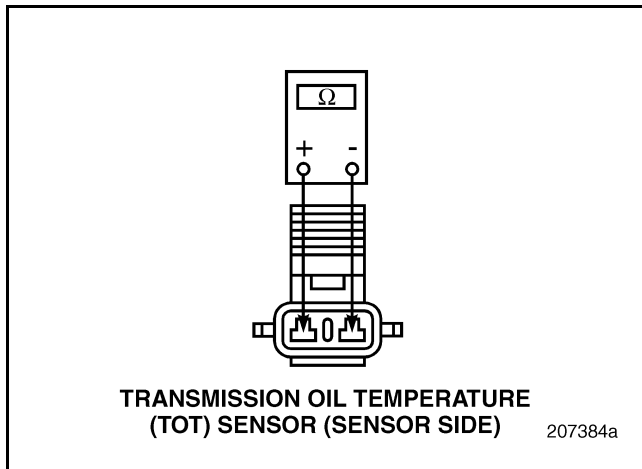

Figure 223
3. Measure the resistance across the two terminals of the sensor with the transmission between 32° and 194°F (0° and 90°C) (see Figure 223).